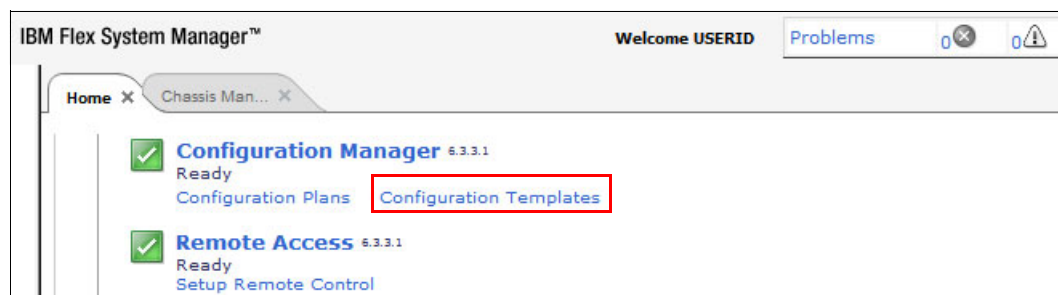

Figure 9-65 Launching Configuration Templates
1. On the Plug-ins tab of the Home page, click **Configuration Templates** under Configuration Manager, as shown in Figure 9-65.